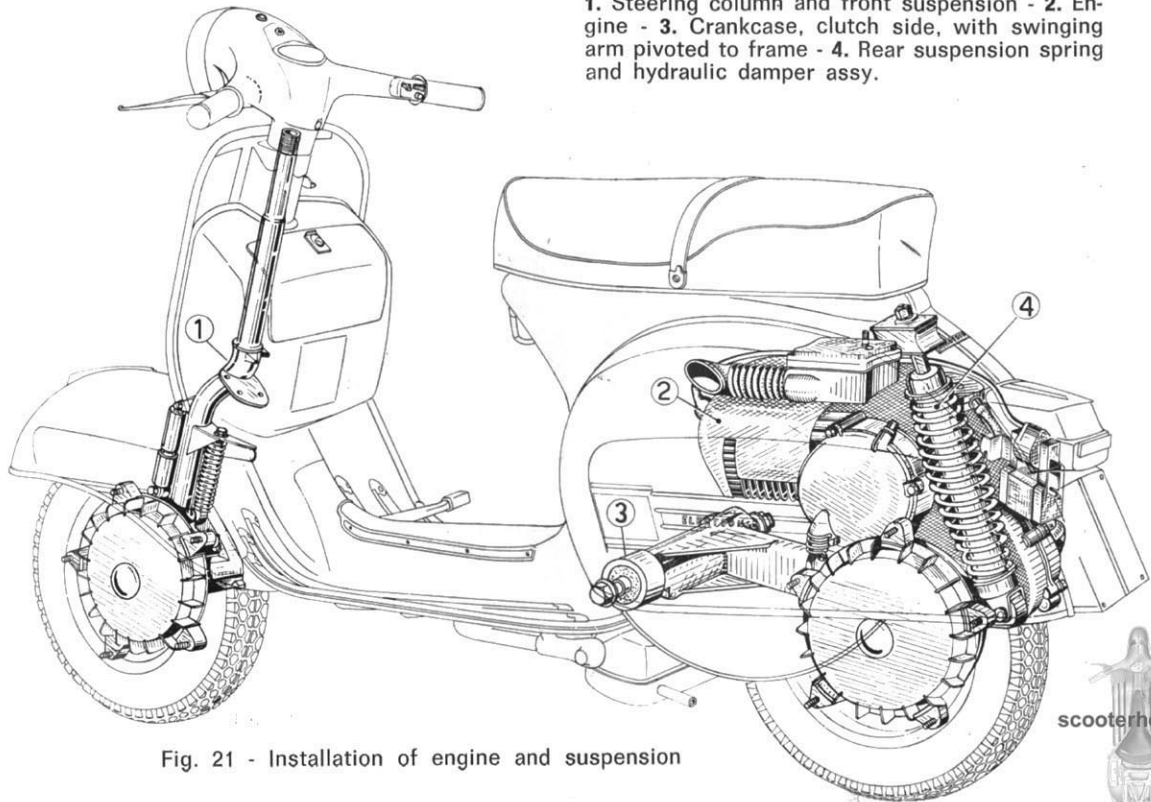

Fig. 21 - Installation of engine and suspension
**Engine** (see characteristics at pag. 5 and fig. 5): the engine is pivoted to the chassis of the vehicle (fig. 21). The rear wheel if fitted on the outer side of the drive shaft.